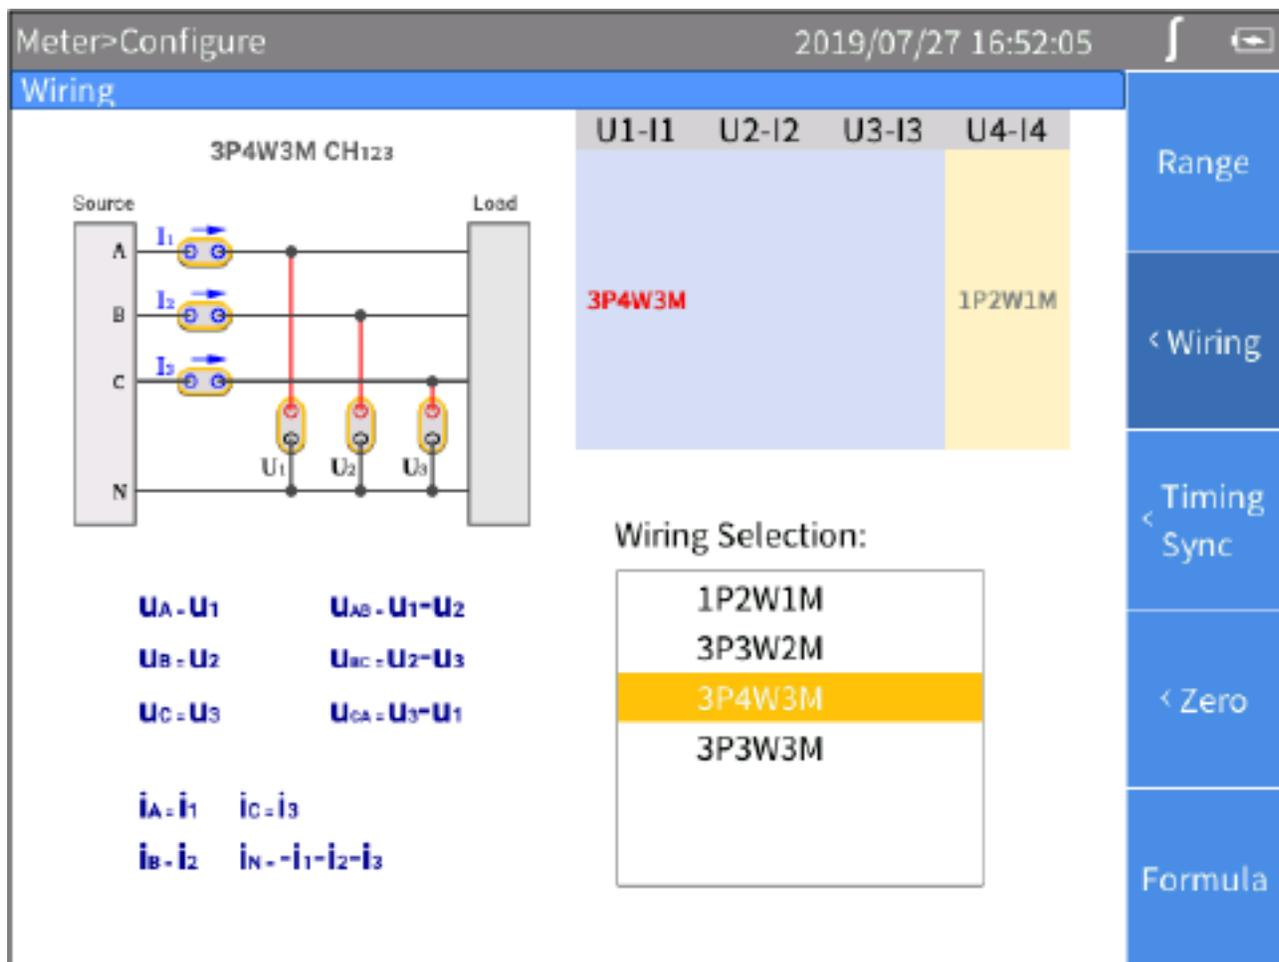

Figure 12. Wiring
2. The Configuration interface of wiring selection is as shown in Figure 12.
1. In the Wiring screen (*Figure 12*), use the left and right arrow (← →) keys to select a channel or wiring group in “**Channel Configuration**”. The wiring selection of the selected channel/wiring group is highlighted.